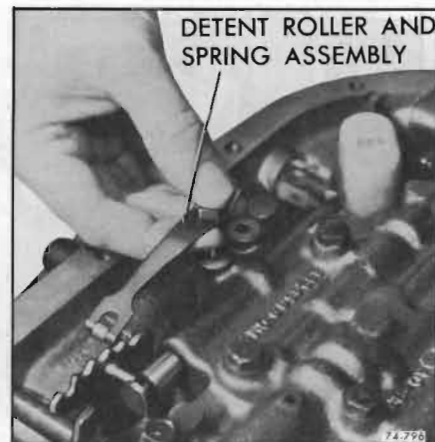
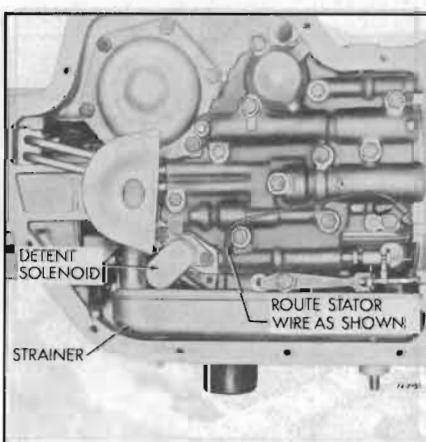

Figure 74-784
Figure 74-785
6. Install control valve assembly attaching bolts, solenoid wire clip and detent roller and spring assembly. Center roller on detent lever. See Figure 74-784. Route stator solenoid wire as shown in Figure 74-785.